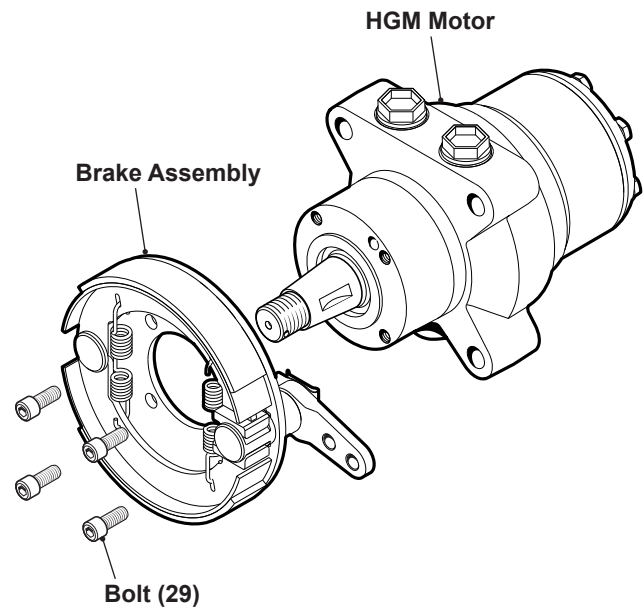

Figure 2, Brake Assembly
4. Remove the four bolts (29) securing the brake assembly to the HGM motor. See *figure 2*.
5. Remove the brake assembly. See *figure 2*.